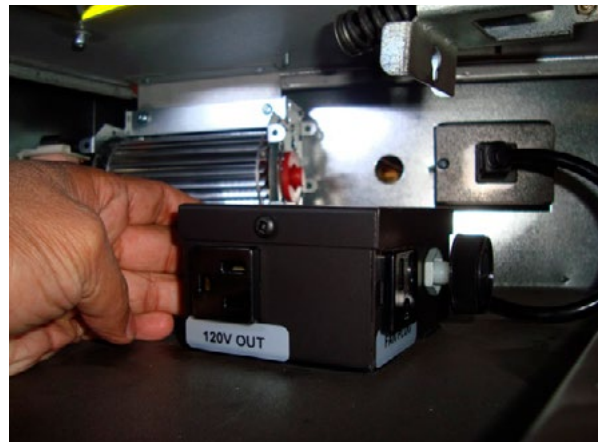

Figure 6 Attach the DRB001
3. Install the right fan as shown in **Figure 6** to the bracket underneath the firebox using the screws supplied (motor should be oriented towards the back side of the fireplace).